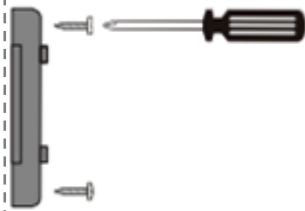

Figure 7
5. Position the display wall mount bracket over the drilled holes and secure with two large Phillips screws (Figure 7)